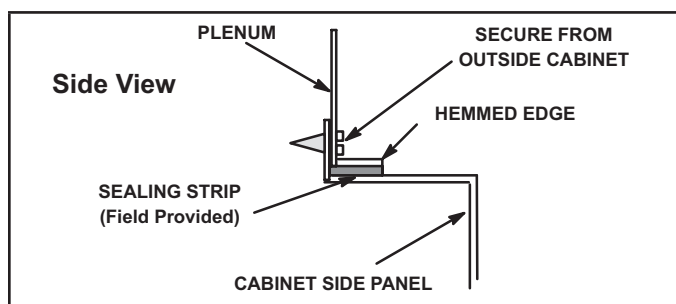

FIGURE 10
- 1 - Bottom edge of plenum should be flanged with a hemmed edge (FIGURE 10).